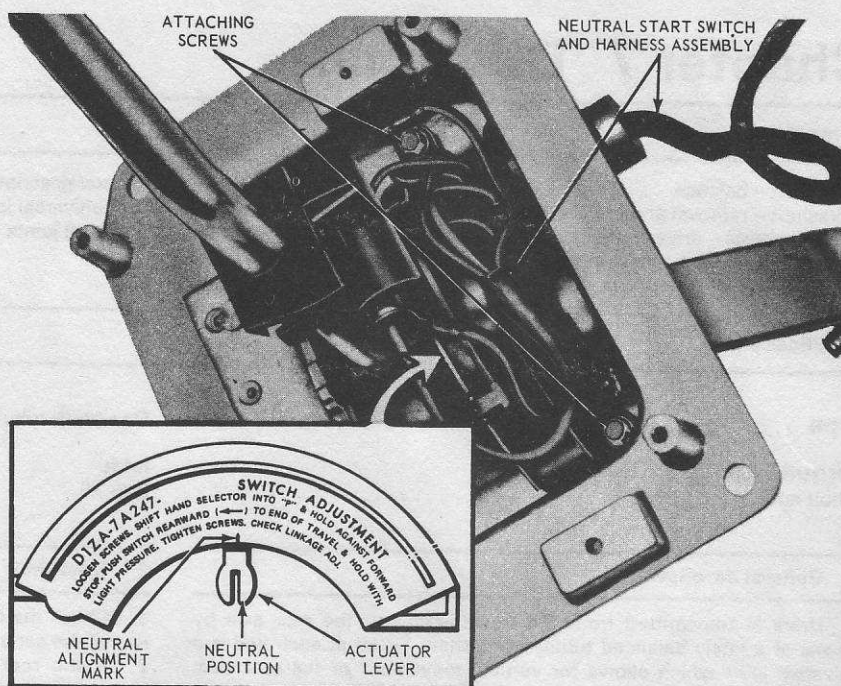

Fig. 6.42 Neutral start switch adjustment (FMX transmission and C6 transmission with 429CID engine) (Sec. 34)
- 6 Adjust the switch in accordance with the information on the switch adjustment plate (see Fig. 6.42).